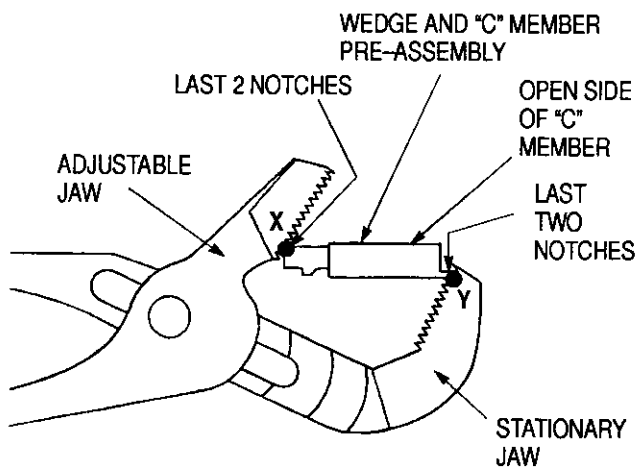
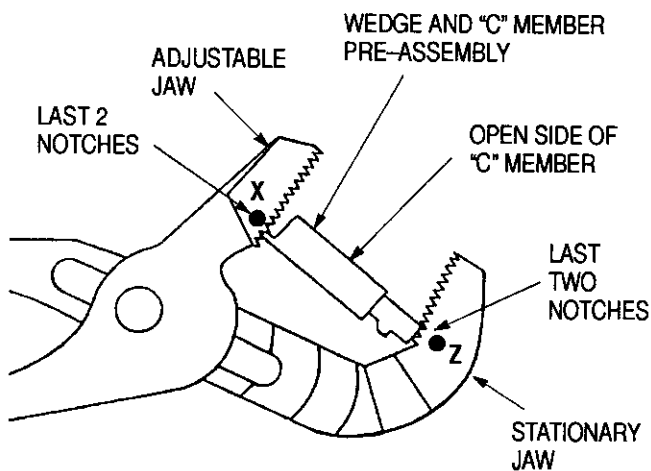

Figure 4 94-359
Figure 5 94-360
4. Use large parallel jaw pliers to secure wedge in "C" member. See Figures 4 and 5.
To reduce effort required, strike wedge with pliers until the rear of the wedge protrudes by 9 mm [.375 in.]. Maximum mechanical advantage occurs when the connector assembly is positioned in-between points X and Y, as shown in Figure 4. (Figure 5 shows an alternate installation position between points X and Z). Use pliers with long handles, 305 mm [12 in.] or larger.
- Revised art in Figure 4, added new Figure 5; revised following figure numbers